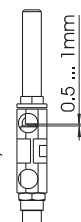

fig 3
1. Loosen M8 counternut (1) of stop screw (2).
2. Adjust stop screw (2) to precise travel path. (Adjustment range 0-15mm)
3. Lock stop screw (2) with counternut (1).
5. Now screw shock absorber against the stop so that the shock absorber ram has a remaining stroke of approx. 0.5 – 1.0 mm, see detailed view fig 3.
6. The shock absorber (3) can now be finally locked in place.